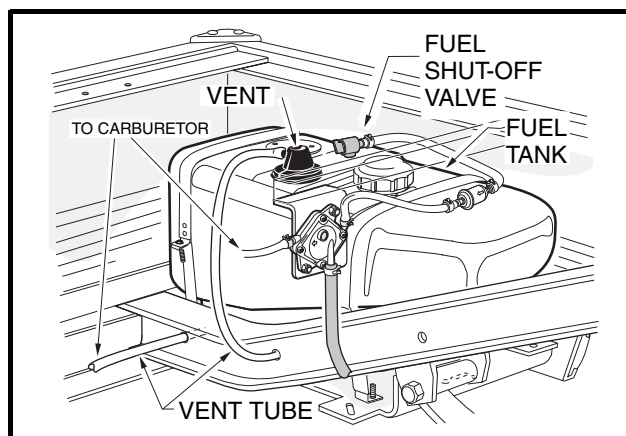

Figure 24 Fuel Tank – HUV4213
- If the vehicle has an all-weather enclosure installed, be sure the fuel tank is properly vented as shown (Figure 24, Page 32).